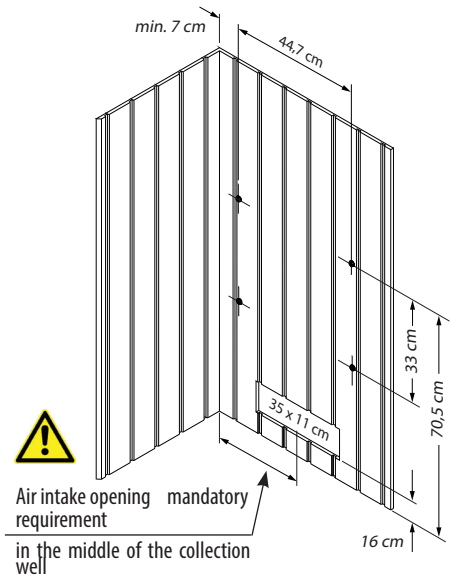

Fig. 2
1. In compliance with Fig. 2, screw 4 attachment screws above the air intake opening into the cabin wall so that there is approx. 3 mm space between the wall and the head of the screw.